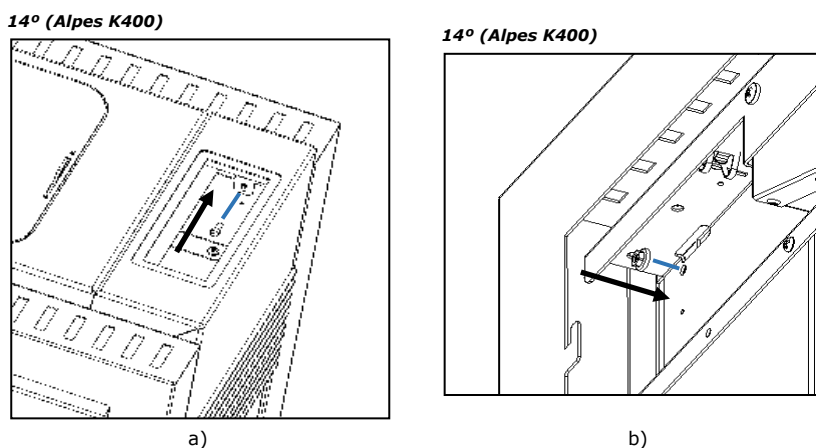

Figure 64 A and B - Fixing of the structural sides
q) After attaching the sides, tighten these to the equipment frame. In the case of the Alpes K400 using two screws A (DIN 912 M5x12) and two nuts B (DIN 6923 M5), in the prepared holes see Figure 64-a and b.